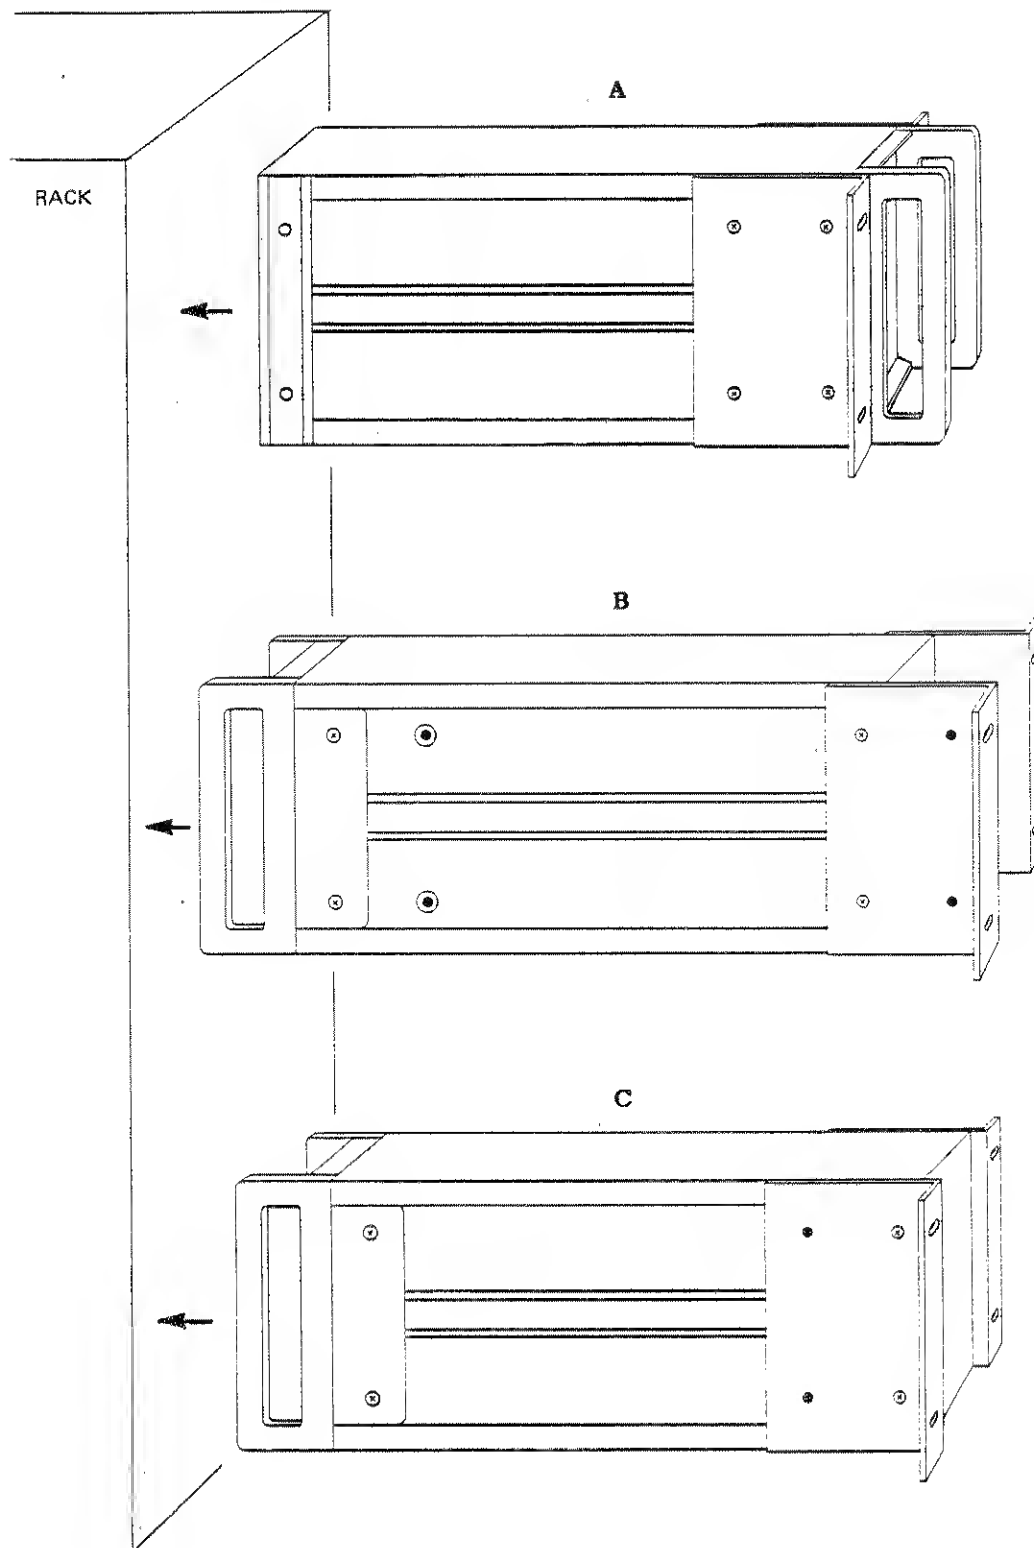

Figure 2-9 - Standard (A) and Optional Rear-Forward Rack-Mount (B and C) Assembly-to-Instrument Configurations
- 2.8.3 **Rear-Forward Rack Mounting** - refer to subsection 2.7, including Figure 2-9, of the 1250 Manual for rear-forward rack-mounting instructions.